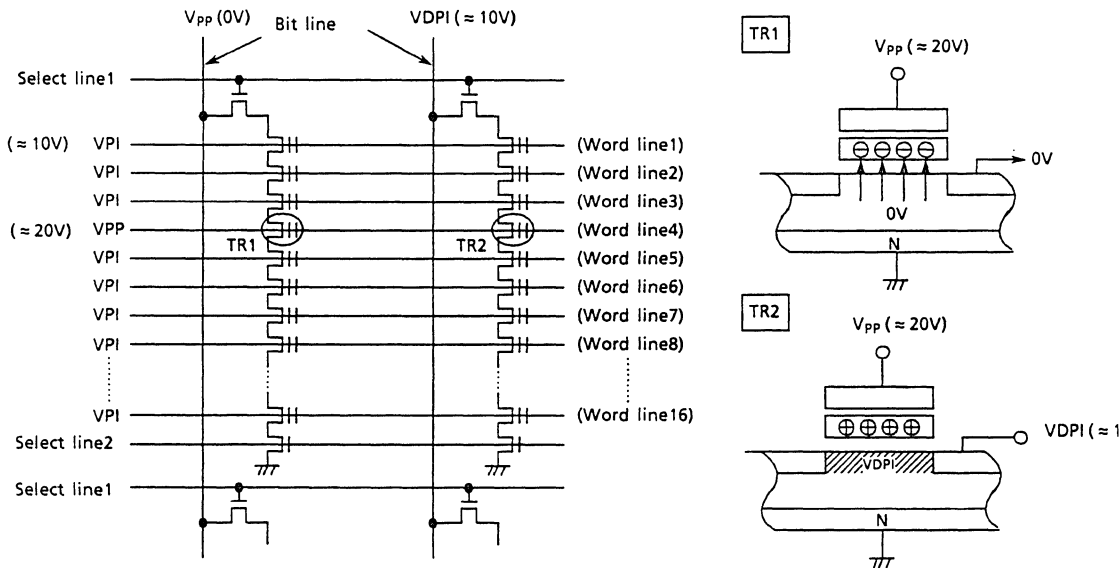

Figure 18. TC5816 Program Device Physics
Figure 18 shows the NAND memory cell and details of the programming mechanism. The program operation is used to write "0" data into an erased memory cell ("1" data cell) using a tunneling mechanism. An example showing the operations necessary to program '0' data in TR1 and "1" data in TR2 follows:
- (1) The select lines are activated so that the transistor array is connected to the bit line and disconnected from the ground line.
- (2) V_{PP} (~20V) is applied to the selected word line and an inhibit voltage of V_{PI} ($\approx 10V$) is applied to the unselected word lines.
- (3) The bit line tied to cell transistor TR1 is biased to 0V and the bit line tied to TR2 is biased to the inhibit voltage of V_{DPI} ($\approx 10V$).
- (4) V_{PP} is applied between the control gate and the channel in TR1, as shown in Figure 18, which causes electrons to be injected from the channel to the floating gate by a tunneling mechanism.
- (5) The injected electrons are captured in the floating gate (which is surrounded by an oxide layer) and will remain, even after power is cut off, until they are removed by an erase operation.
- (6) Although 20 volts is applied to the control gate of TR2, the voltage difference between the control gate and the channel is only 10V because the voltage of the channel is 10V. Therefore, tunneling does not take place. (i.e. electrons are not injected into the floating gate.)
- (7) Tunneling does not take place in the unselected pages because of the 10V (V_{PI}) being applied to the unselected word lines which again makes the voltage difference between control gate and channel only 10 volts. Thus, the floating gate of the "0" cell is charged to "minus" and that of the "1" cell is charged to "plus".